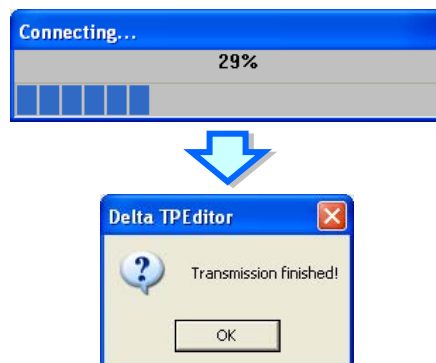

Figure 6-12 Downloading a boot page
- Step 5: After the users click **Write Boot Page to TP** on the **Communication** menu, the boot page edited will be downloaded to the TP04G series text panel, and the window showing the percentage of progress in downloading the boot page will appear, as shown in Figure 6-12 The boot page edited does not need to be compiled before it is downloaded.